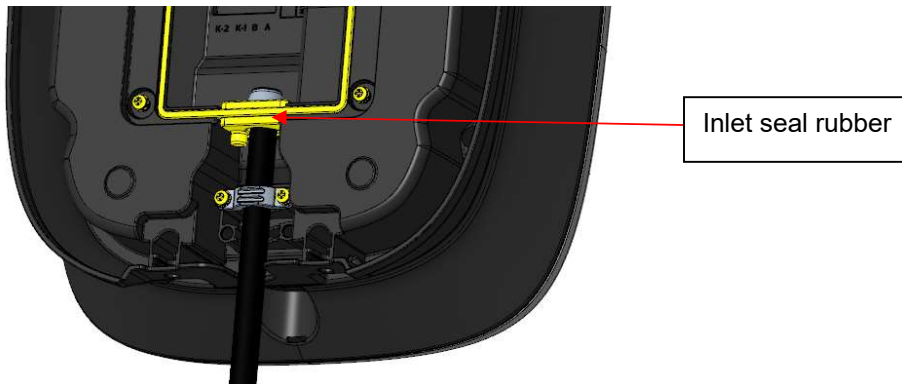

Figure A-7 Location of inlet seal rubber
- Recommended cable specifications of 22kW charger: 6mm^2 (brown L1, black L2, grey L3, blue N, green yellow PE), outside diameter 13 mm-17 mm, Inlet seal rubber plug, as shown in Figure A-7.